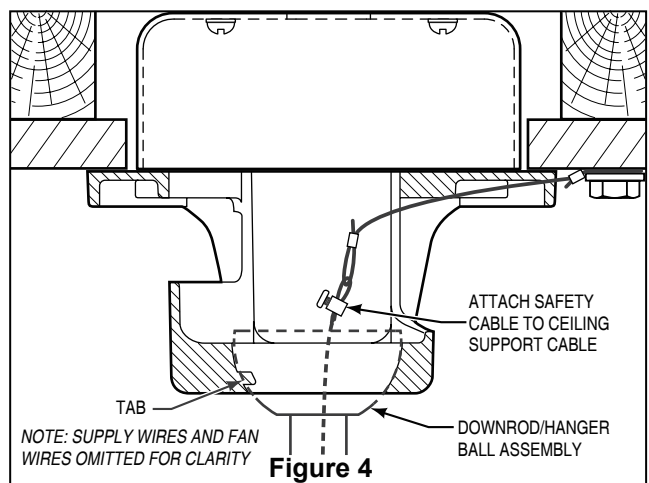

Figure 4
Loosen the two setscrews in the downrod support. Install downrod into coupler. Align the clevis pin holes in the downrod with the holes in the downrod support. (Figure 4)
- ☐ 4. Carefully lift the fan and seat the downrod/hanger ball assembly on the hanger bracket that was just attached to the outlet box. Be sure the groove in the ball is lined up with tab on the hanger bracket (Figure 4)
- ☐ 5. Attach the safety cable to ceiling support cable. Slide cable clamp onto safety cable (from fan). Place the end of cable through the loop of ceiling support cable. Pull as much cable through loop as possible. Feed end of cable into clamp hole and firmly tighten screw (Figure 4) .